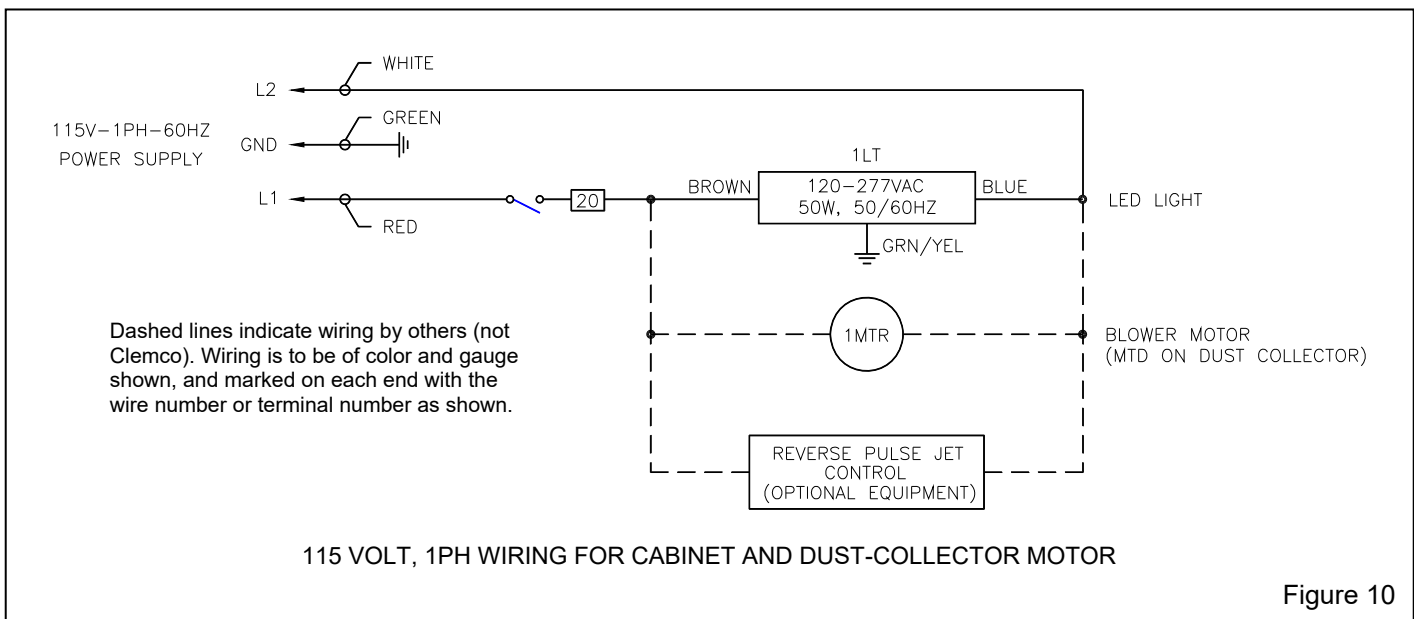

Figure 10
2.11.1 Single-phase wiring – Figure 10
2.11.1.2 Refer to the wiring schematic in Figure 10 and wire the dust-collector motor per instruction on the motor data-plate, to the junction box 10, the dust-collector exhaustor motor will start when the cabinet light switch is turned ON, and stop when the switch is turned OFF.